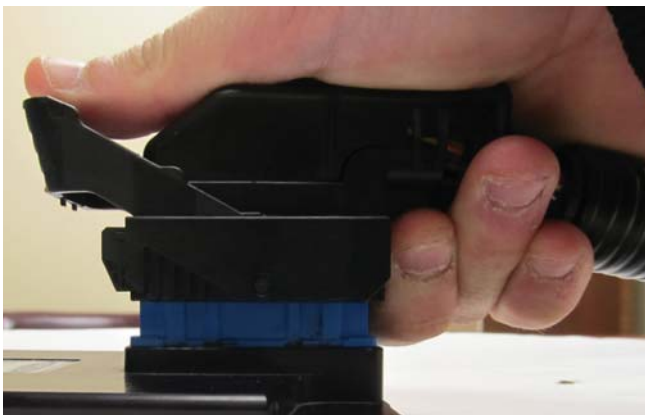

Figure 3
3. While pushing forward on the lever, grip the back of the harness and pull upwards and away from the module. **Reference Figure 3.**